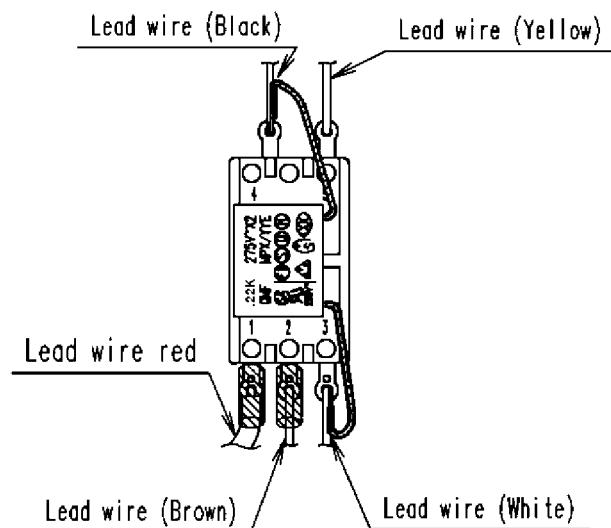

**Figure 9**
6. Take off a motor heater block from a housing B as figure 9.